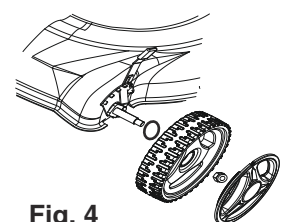

Fig. 4
2. Then place wheel cover by tapping it in. Fig. 4